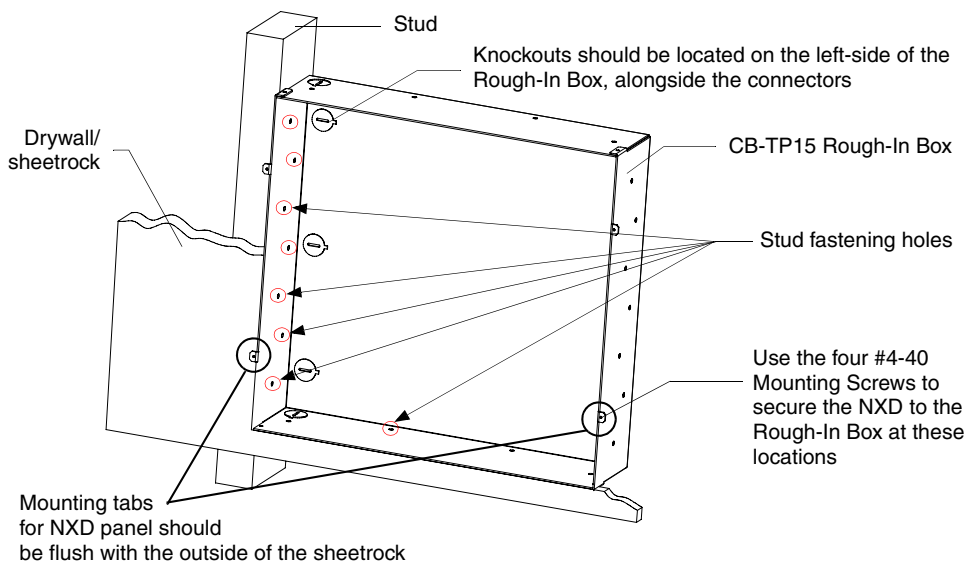

FIG. 1 Screw locations for Rough-In Box attachment in a pre-wall installation
1. Fasten the CB-TP15 to a stud through the stud fastening holes, located on the inside of the Rough-In Box (FIG. 1), by using either nails or screws.